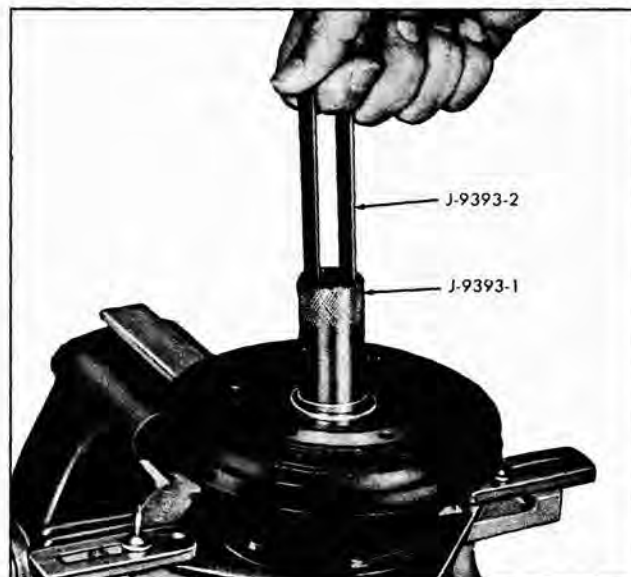

Fig. 5-65 Removing Shaft Seal Seat
4. Remove shaft seal seat, using J-9393-1 and 2 to grasp flange on seal seat (Fig. 5-65). Pull straight out at end of tool to remove seal seat.